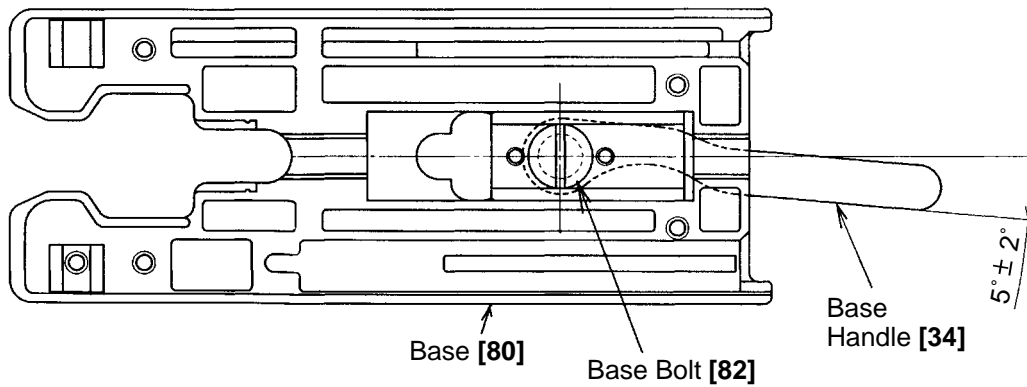

Fig. 18
(10) Fix the Base Handle [34] by tightening the Base Bolt [82] as shown in Fig. 18.